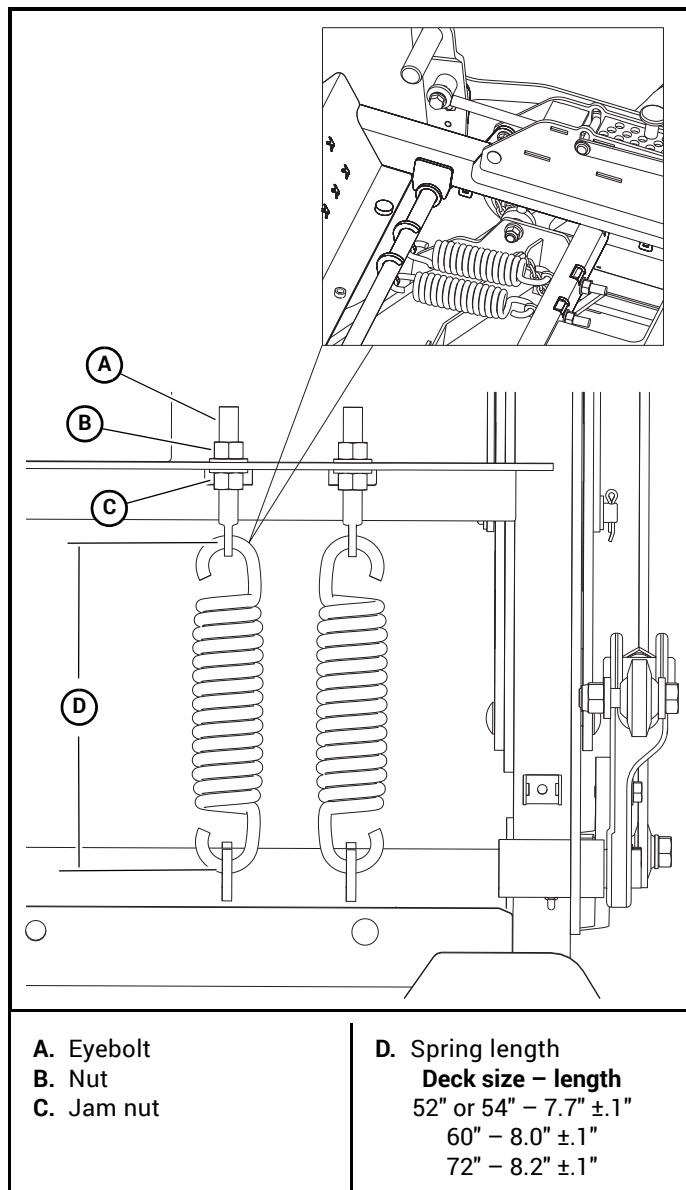

Figure 8-5
8. Adjust the deck lift assist spring tension by turning the nut until the spring length from the inside of one hook to the inside of the other hook matches the length indicated in the table. Tighten the jam nut once the distance is set. Figure 8-5